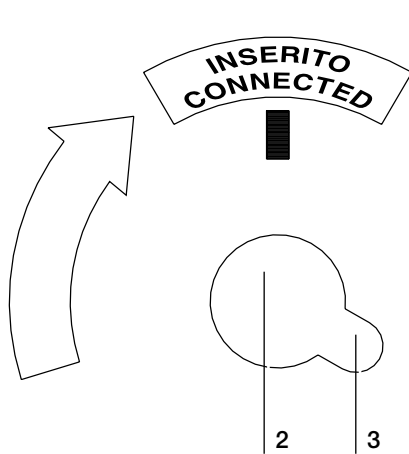

Fig. 23a
- Insert the operating lever (1) (fig. 23b) into the seat (2) (fig. 23a) making the raised piece (2) (fig. 23b) of the lever coincide with the slot (3) (fig. 23a);
- withdraw the operating lever (1) (fig. 23b) from the seat (fig. 23a) making the raised piece (2) (fig. 23b) of the lever coincide with the slot (3) (fig. 23a);